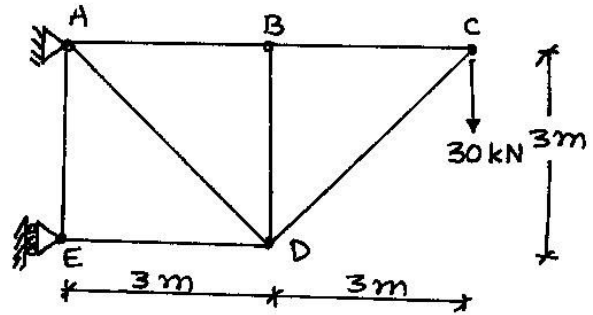

FIG 4 Q.3 (b)
- (b) Determine forces in members of truss shown in **fig 4**. **05**